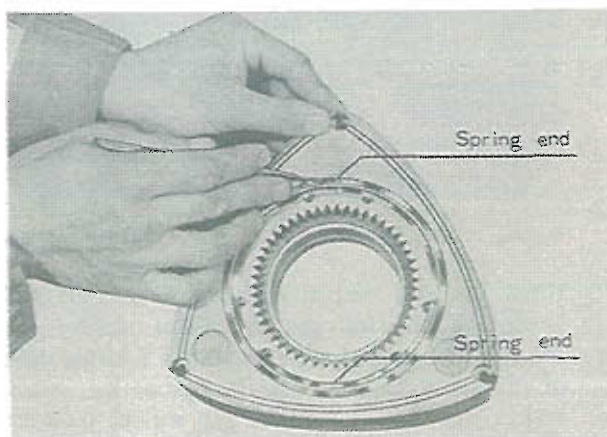

Fig. 1-68 Position of oil seal spring end
2) Fit the outer and inner oil seal springs in their respective grooves on the rotor so that the ends of the spring are facing upward and the spring gaps are located opposite each other, as shown in Fig. 1-68.